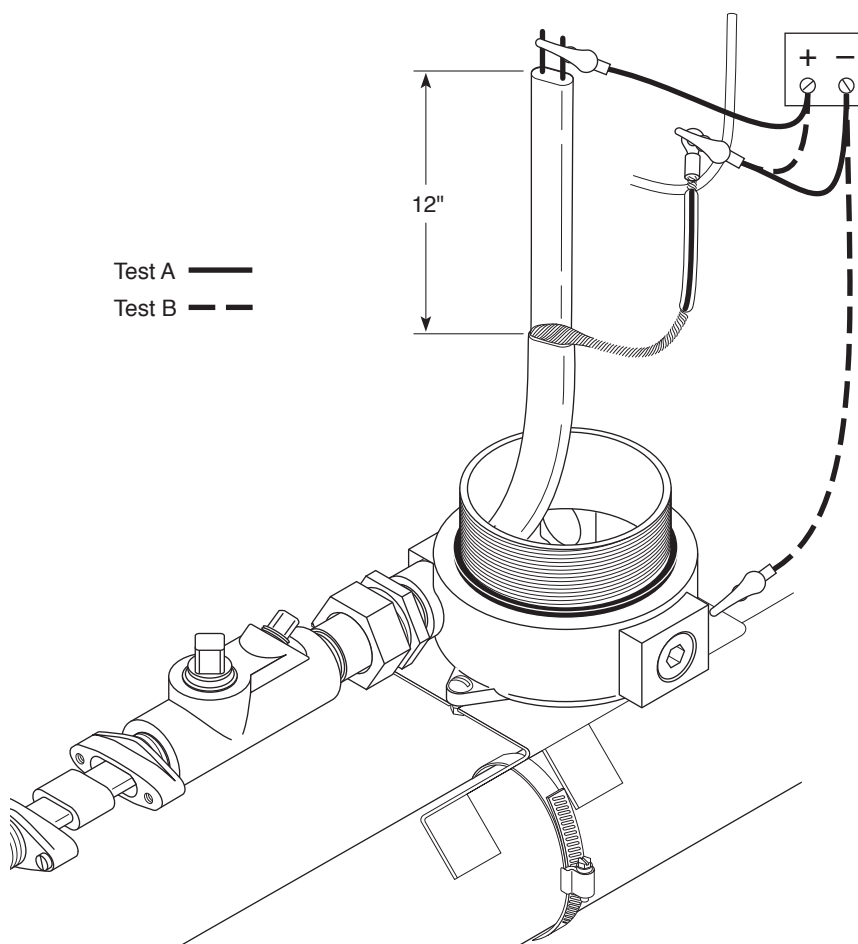

FIGURE 1. INSULATION RESISTANCE TEST
- Following the test method outlined in Section 5.10.2 (and illustrated in Figure 1 of that section), perform an insulation resistance test on the heating cable. Record these readings in the "Insulation Resistance Testing" section of the FM Required Division 1 Installation Record, which is Appendix F of this manual.
Note: Make sure the insulation resistance testing is completed prior to pouring seals. Refer to Step 11 and Section 5.10.2, Figure 1.